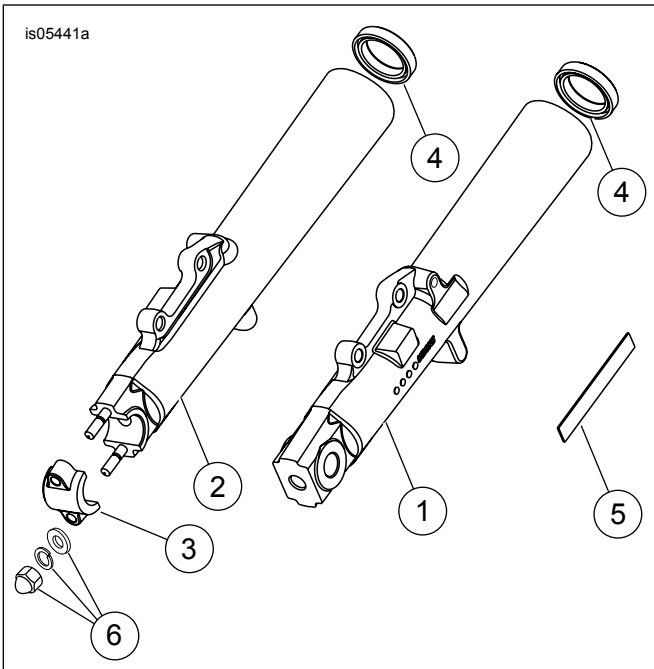

Figure 2. Service Parts: Chrome Fork Sliders
See Figure 2 and Table 1.
1. See Figure 2. Assemble the front fork tubes following the instructions in the appropriate Service Manual. Replace the oil seals with **new** slider oil seals (4).
6. See Figure 2. Peel the liner from one side of the foam double-sided tape (5). Position the tape to the back of the reflector, and press firmly into place.